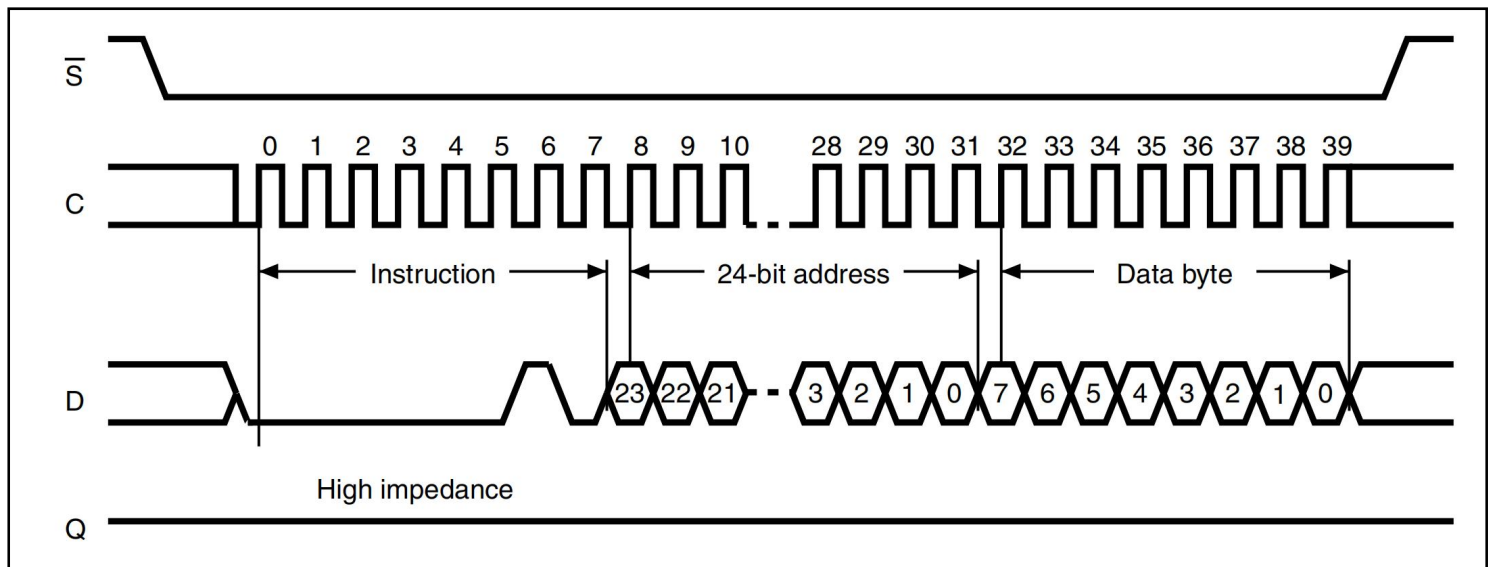
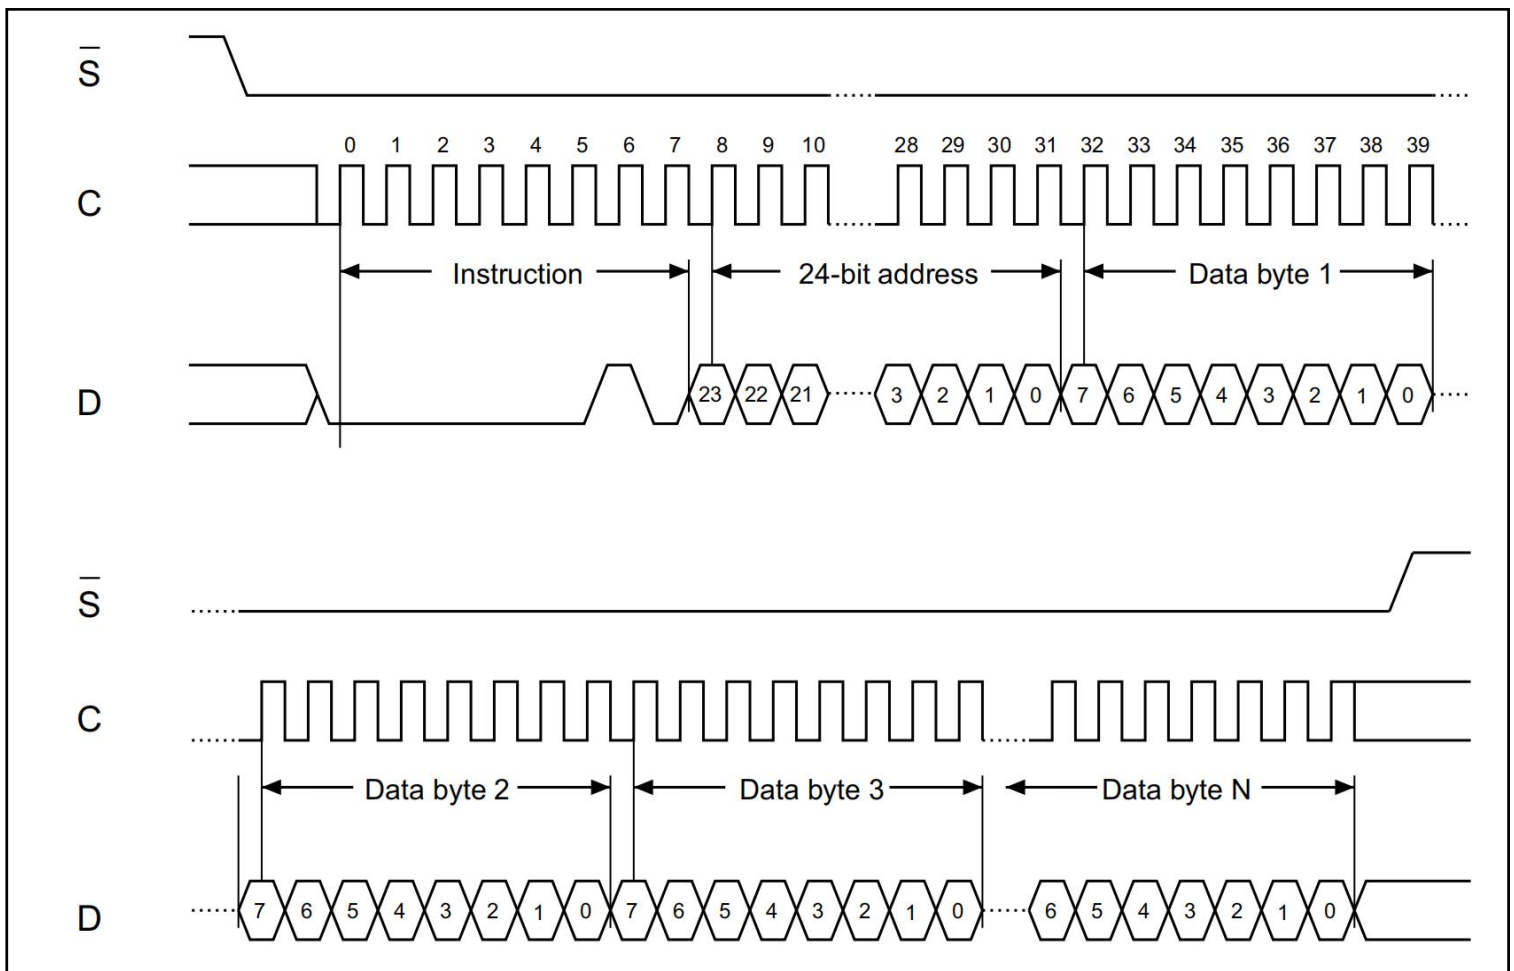

Figure 12. Byte Write (WRITE) sequence
Figure 13. Page Write (WRITE) sequence
As shown in Figure 12, to send this instruction to the device, Chip Select ($\overline{S}$) is first driven low. The bits of the instruction byte, address byte, and at least one data byte are then shifted in, on Serial Data Input (D).
In the case of Figure 12, Chip Select ($\overline{S}$) is driven high after the eighth bit of the data byte has been latched in, indicating that the instruction is being used to write a single byte. However, if Chip Select ($\overline{S}$) continues to be driven low, as shown in Figure 13, the next byte of input data is shifted in, so that more than a single byte, starting from the given address towards the end of the same page, can be written in a single internal Write cycle.